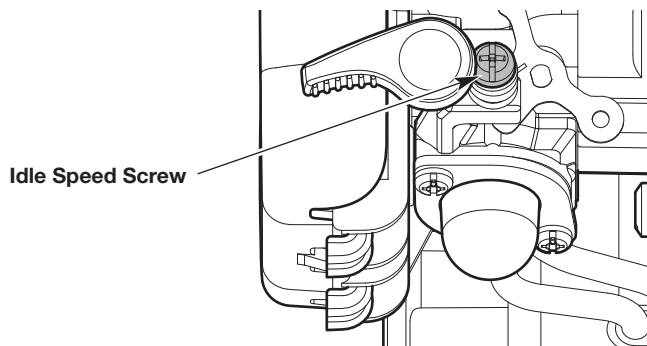

Fig. 13
- If the engine stops, increase the idle speed. Use a small Phillips screwdriver to turn the idle speed screw clockwise, 1/8 of a turn at a time, until the engine idles smoothly (Fig. 13).
- If the cutting head (or blade) spins when the engine idles, reduce the idle speed. Turn the idle speed screw counterclockwise, 1/8 of a turn at a time, until the cutting head (or blade) stops moving (Fig. 13).